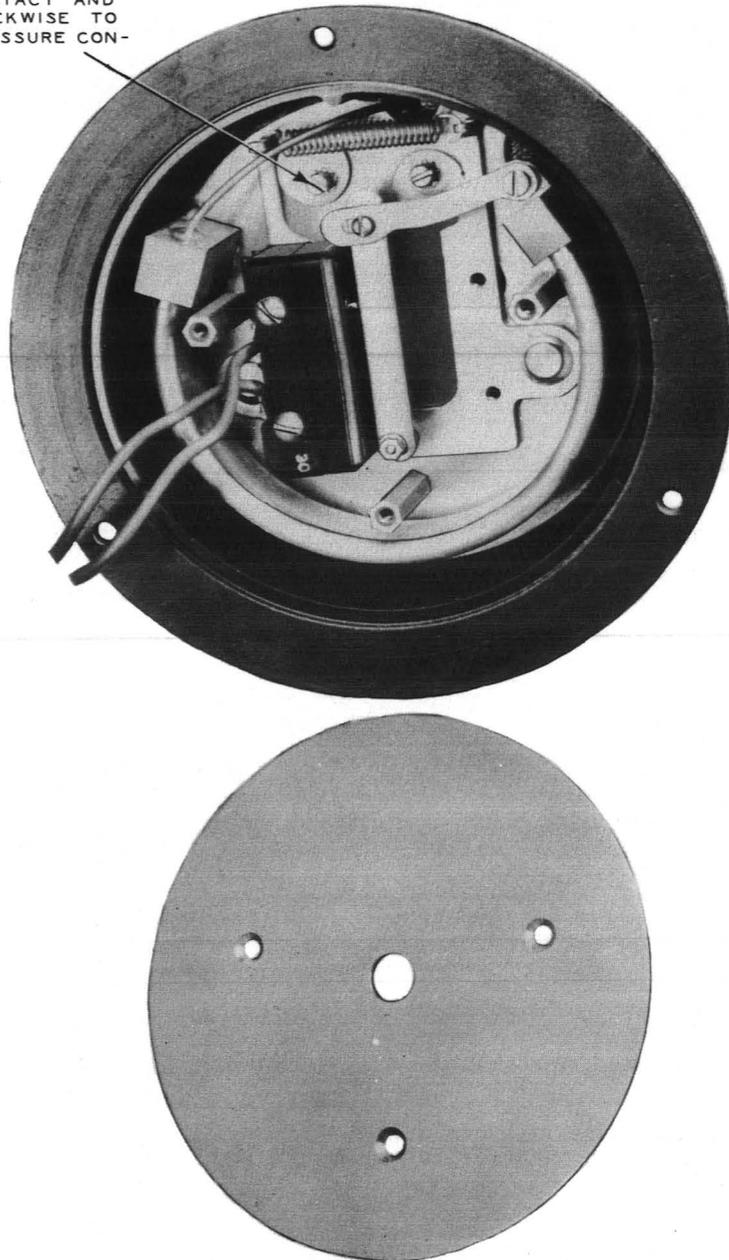

Fig. 1 - Mechanism of Pressure Gauge Alarm
- (1) Remove the rear plate of the pressure gauge by removing the three screws.
- (2) With a screwdriver, adjust the cam (Fig. 1) clockwise to increase the pressure at which contact is made and counterclockwise to decrease the pres-